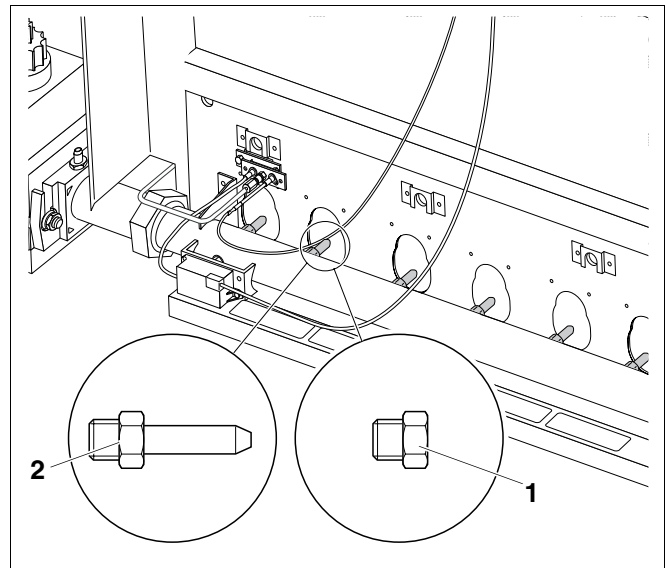

Fig. 25 Checking the main gas nozzle
- Check the main gas nozzles by means of their designation Table 17 and Fig. 25.
- Check the main gas nozzles by means of their designation Table 17 and Fig. 25, page 48.